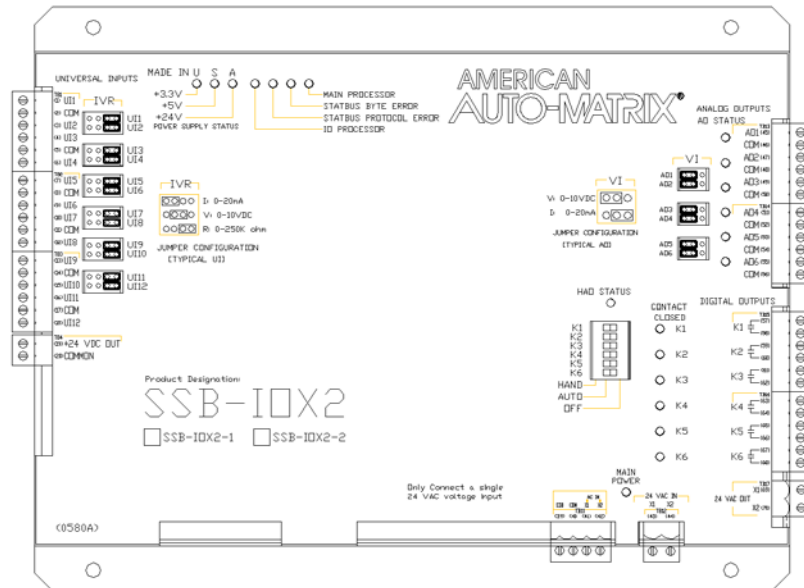

Figure 5-60 : The SSB-IOX2-1 Module
The SSB-IOX2-1, shown in Figure 5-60, is a STATbus module based on the same hardware as the GPC1 controller. It provides twelve (12) universal inputs, six (6) analog outputs, and six (6) digital outputs.